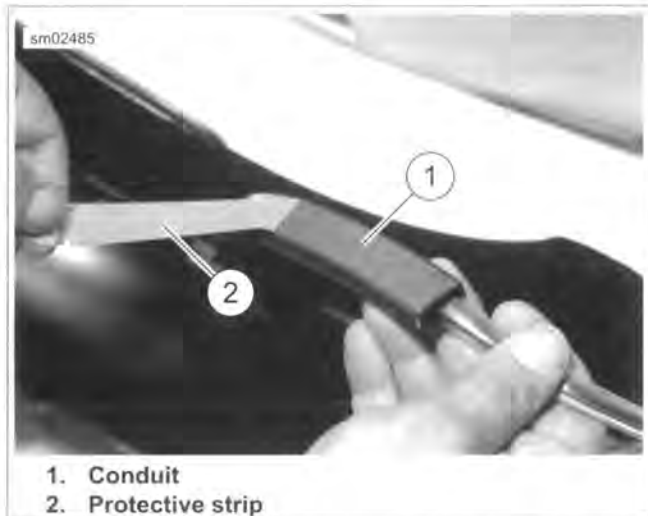

Figure 2-137. Removing Protective Strip from Conduit
4. See Figure 2-137. Remove protective strip covering adhesive on conduit and lightly position the conduit in place.